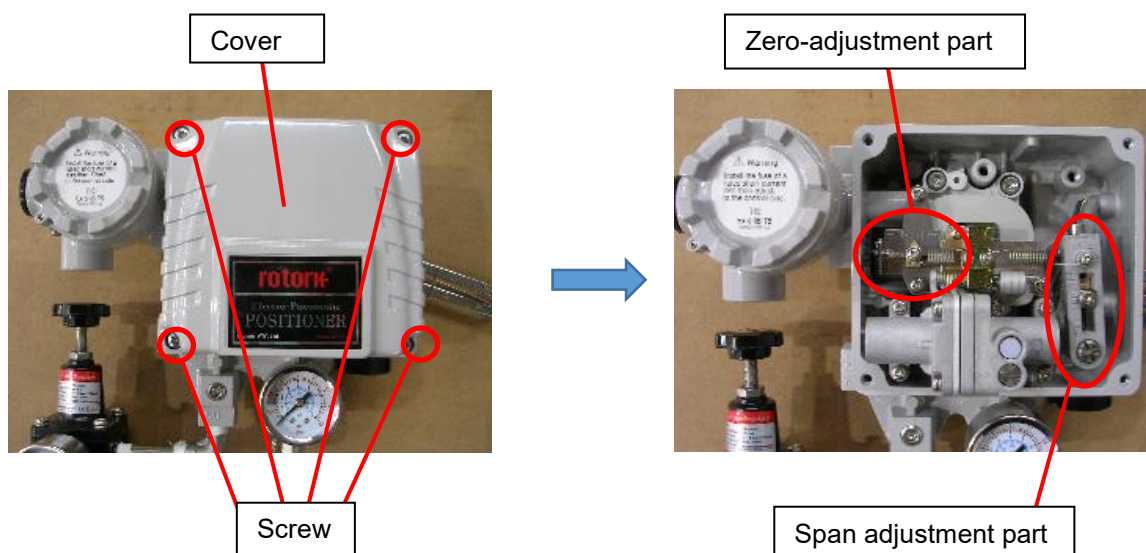

Fig.2
- (1) Loosen 4 screws on the cover with a cross-head screwdriver and remove the cover. Then, readjust the zero-adjustment part and the span adjustment part. (Fig. 2)